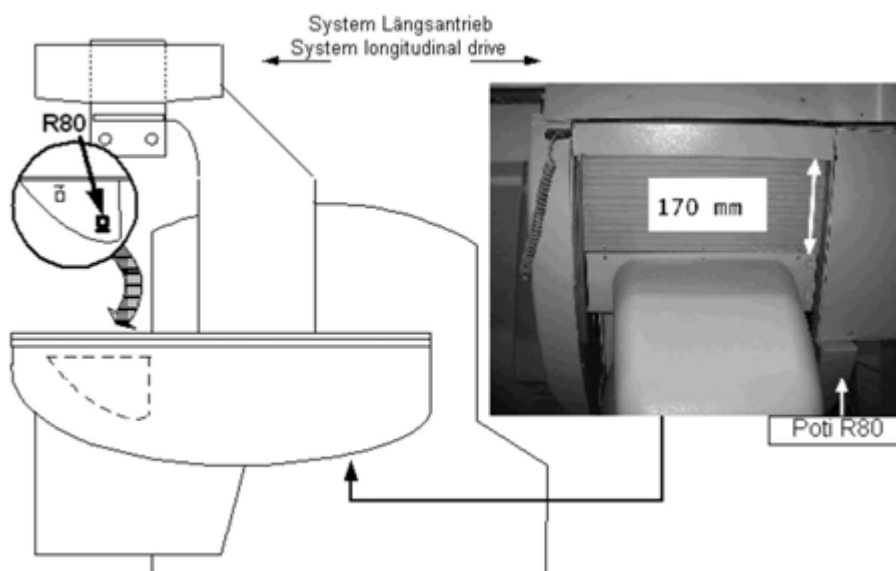

Fig. 35: Adjustment - system longitudinal
- Using the service keys, move the system longitudinal drive to the reference position (Fig. 35 / p. 58).
The reference position is 170 ± 1 mm distance between both edges (Fig. 35 / p. 58).
Access: Remove the cover at the foot end (see arrow (Fig. 35 / p. 58)).